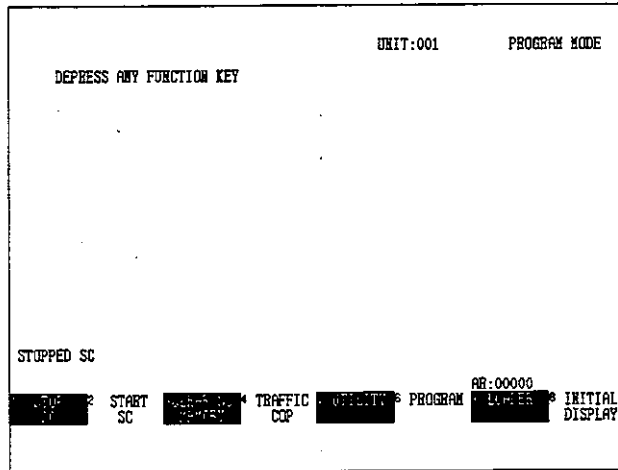

Figure 6.6
After going online, press the Supervisory Key. The screen shown in *Figure 6.6* will be displayed. The supervisory functions will be displayed in the label area.
- 1) Perform the Attach Operation. (See Note (2))
- 2) Press the Supervisory Key. The screen shown in *Figure 6.6* will be displayed.
(2) The Attach Operation is not required when the PLC is already online.
(3) If Cancel is selected instead of Confirm, no operation will be carried out and the screen will return to the condition shown in *Figure 6.6*.
- (1) Program modification and storage can be performed when the GL60S, GL60H, or GL70H is either running or stopped. Clear Memory, Modify Allocation, Move Network, Single Sweep, and Load can be carried out only while the PLC is stopped.
- (2) The Attach Operation is not required when the PLC is already online.
- (3) If Cancel is selected instead of Confirm, no operation will be carried out and the screen will return to the condition shown in Figure 6.6.
- (4) About 5 to 10 seconds elapses between selecting Confirm and the Run indicator lighting.
- 1) Perform the Attach Operation. (See Note (1))